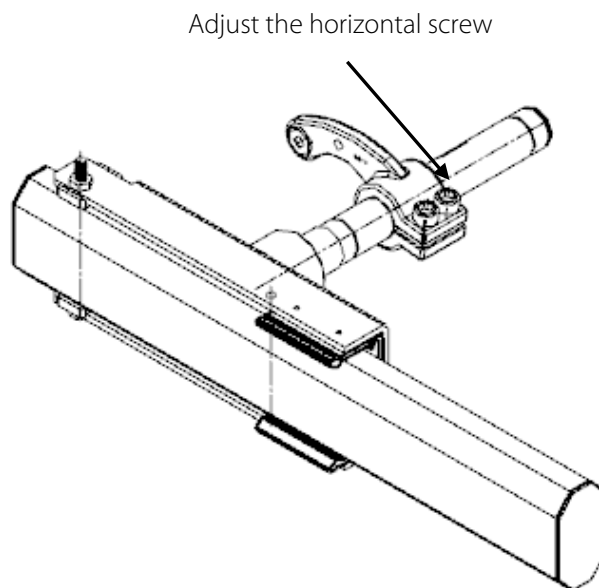

Figure 2-1
3. Adjust the position of the boom (horizontal position, as shown in figure 2-1).